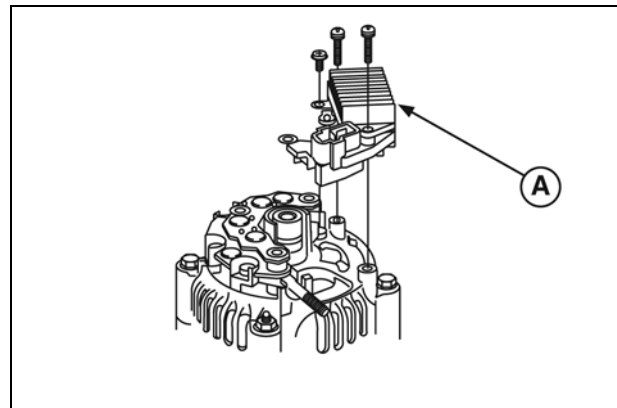

Figure 23
6. Remove stator lead screws from rectifier (A, Figure 23).
7. Carefully straighten stator leads (B) and remove rectifier.